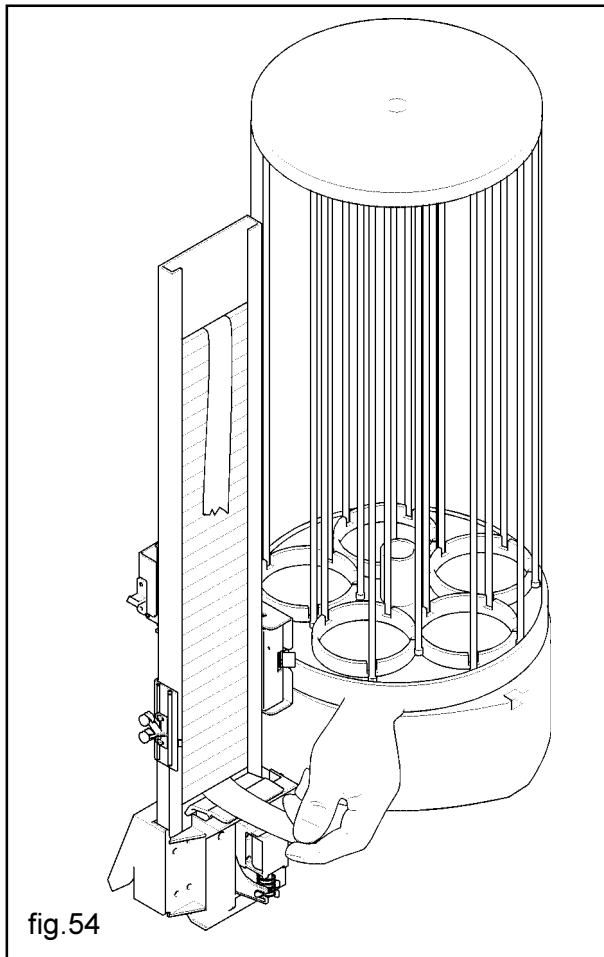

fig.54
- Insert the spoons with their pack wrapping in the column and when they are positioned on the bottom, cut and remove the wrapping (fig.54).